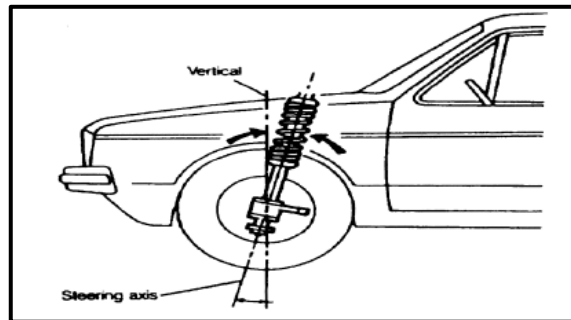

FIGURE 4.11
4.11 What type of wheel alignment is displayed in FIGURE 4.11 below?